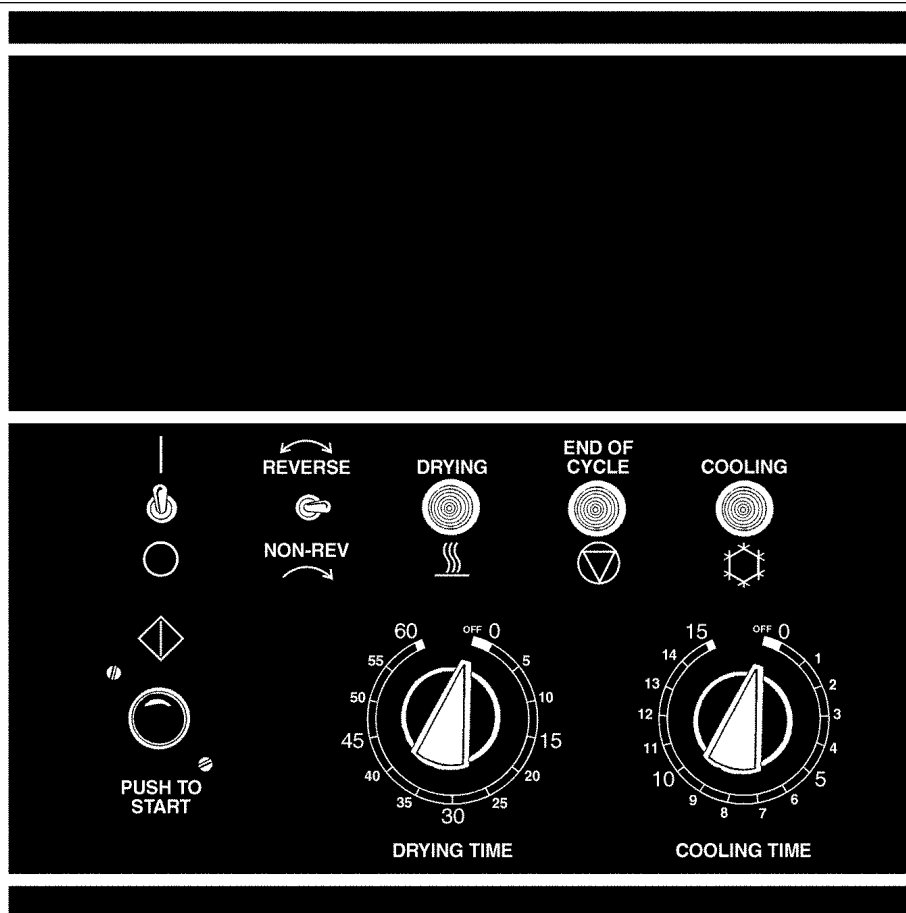

Fig. 1
2. Turn the 60-minute drying timer to the desired drying time. The drying cycle light will be on and indicate the drying. The light shuts off when drying time is complete. (figure 1 on page 26.)
3. Turn the 15-minute cooling cycle timer to the desired cool down time. (**Note: Dryer will not start unless some cooling time is selected!**). After the drying cycle is completed, then the cooling cycle time will automatically operate. The cooling light will be on and indicate the cooling of the clothes load. The light shuts off when cooling time is completed. (figure 1 on page 26.)
6. Turn switch to “ON” or “I” position. (figure 1 on page 26.)
7. Close the dryer door, but the basket **will not rotate** until the **PUSH-TO-START BUTTON** is pressed. Press in the **PUSH-TO-START BUTTON** (approximately 2 seconds) until the dryer starts running and then release button. (figure 1 on page 26.)